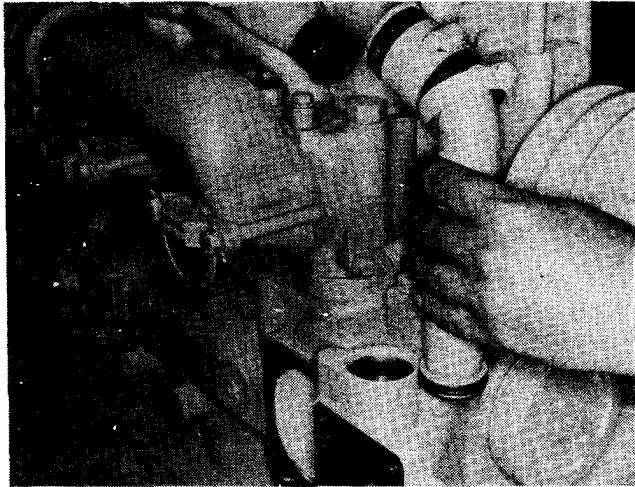

Fig. 0-11, (N100119). Removing water transfer tube
3. Loosen clamps securing water transfer tube to thermostat housing. Remove transfer tube, discard "O" ring. Fig. 0-11.